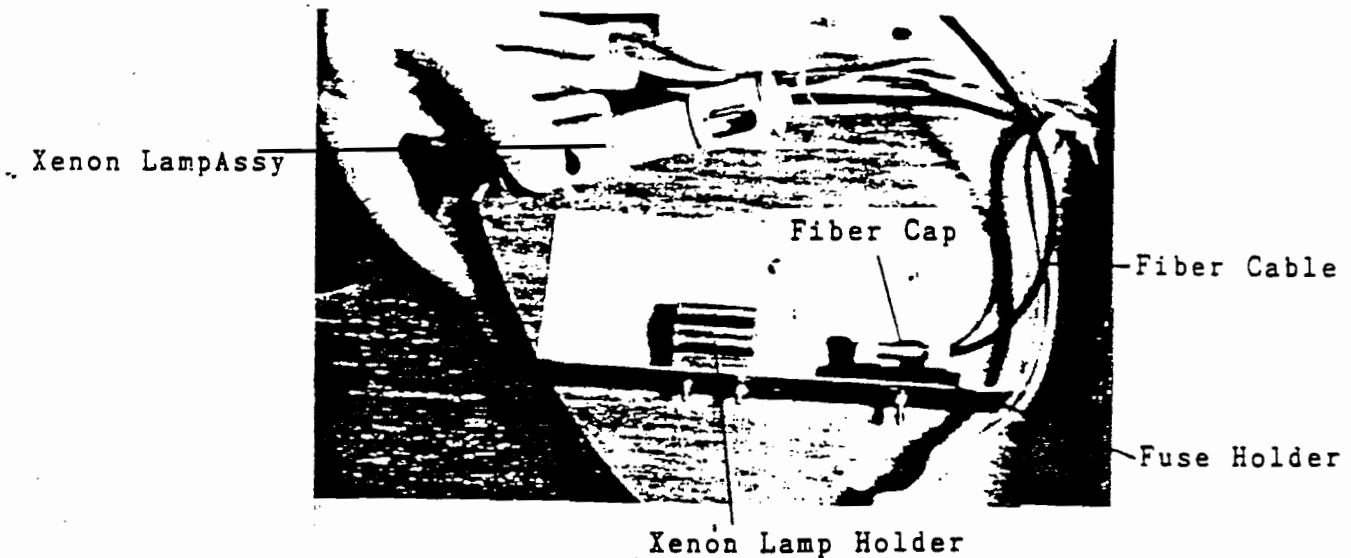

fig. 7-16
- ③ Remove the xenon lamp assy from the xenon holder to replace. [Ref. Fig. 7-16]